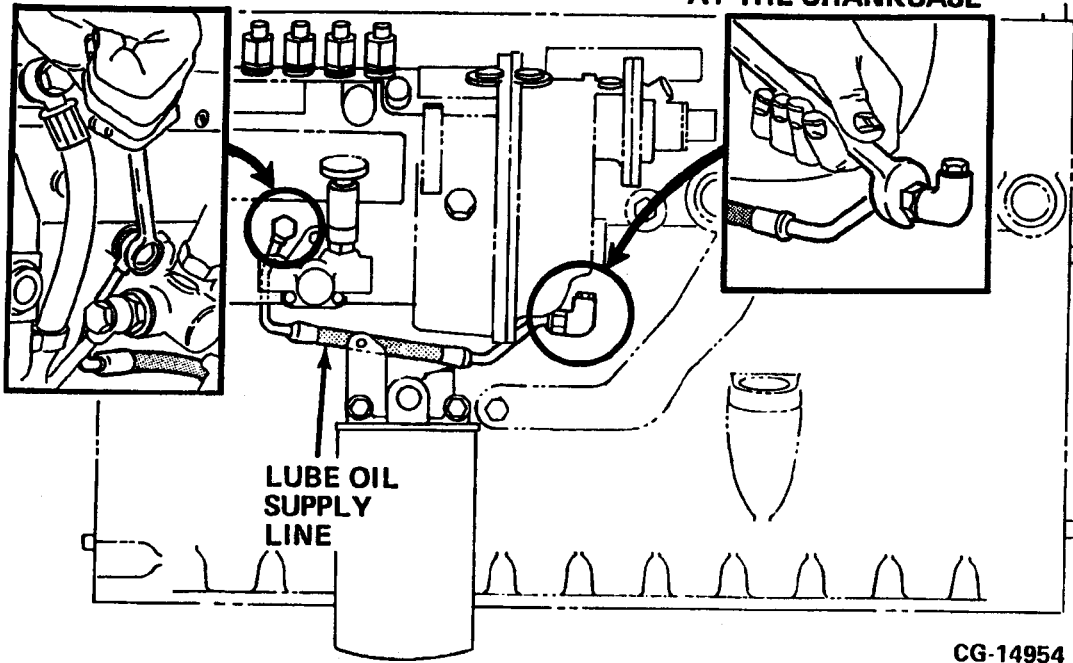

Figure 11.45. Install Lube Oil Supply Line
9. Install the lube oil supply line as follows: (Refer to Figures 11.45)